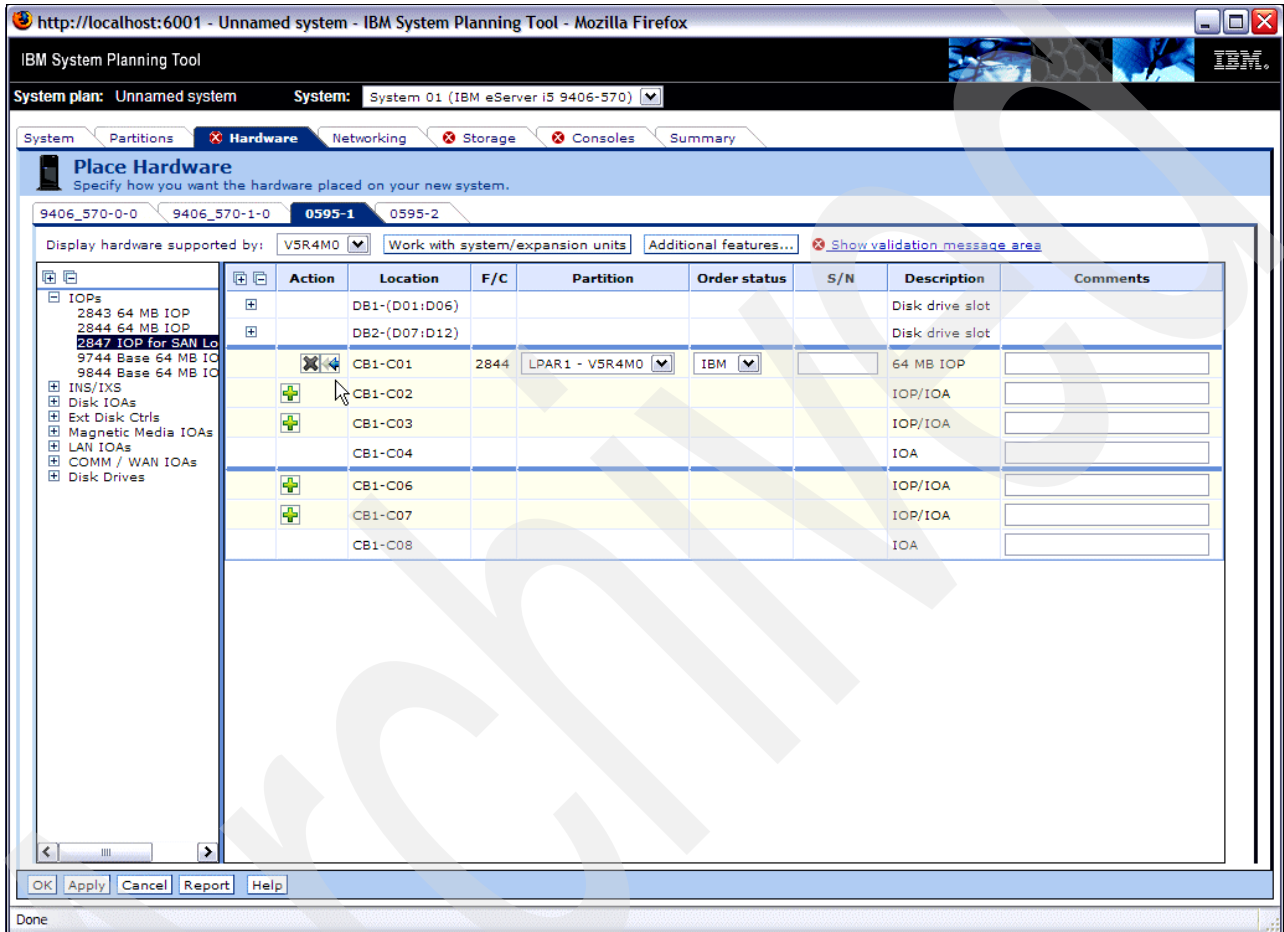

Figure 2-31 Remove and replace function
After placing an item, a remove symbol (X) appears. If you select any item that is allowed to use that slot, a replace symbol (<-<-) appears next to the item, as in Figure 2-31. The replace function actually performs a remove/add process under the covers. As we create a working design you should remember that replacement of a controlling part will only be allowed if the new controller can control the parts that the current controller is controlling, and the controlled parts will not be affected. They do not need to be removed and re-added when the controller needs to be replaced. This works very well for changing a disk IOA when it is already controlling disk drives.